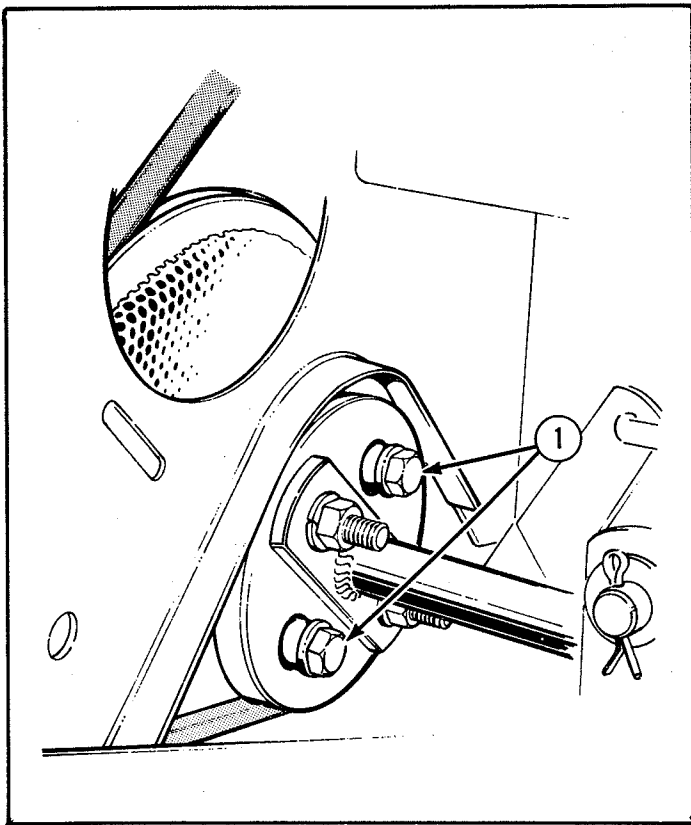
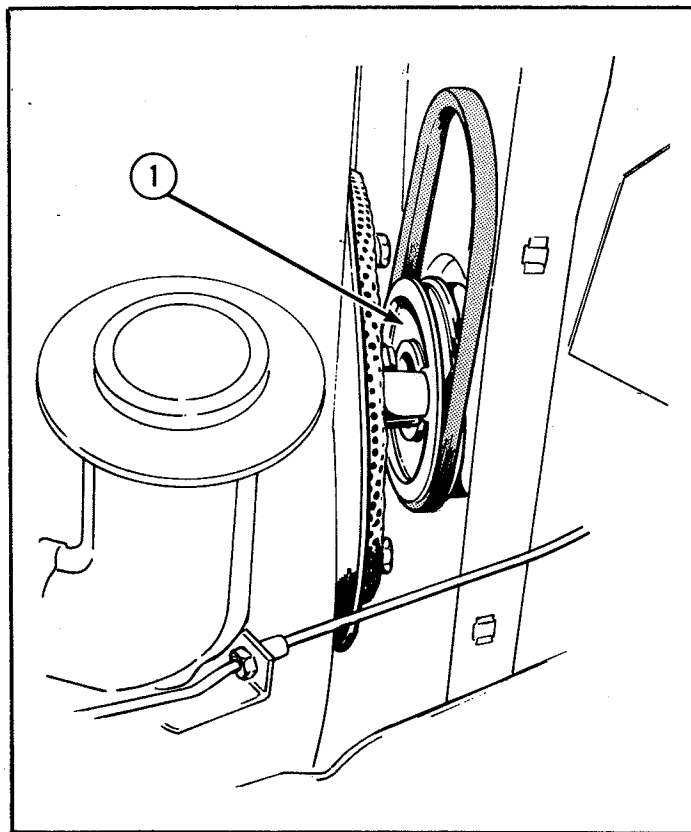

FIGURE 2
FIGURE 3
- C. Remove two capscrews holding front coupling to the engine pulley (1, Fig. 2) and replace spacers with the hydraulic pump drive pulley (1, Fig. 3), being sure to have the pump belt in position on the pulley before replacing the attaching screws.